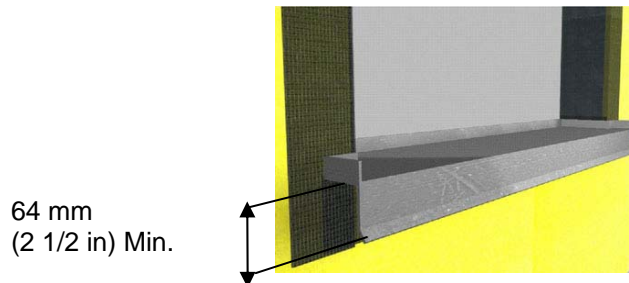

Figure 6
- a. Install a watertight pan flashing at all sill locations - Figure 6.
- c. The flashing shall extend a minimum of 64 mm (2 1/2 in) down over the face of the Outsulation System Figure 6.